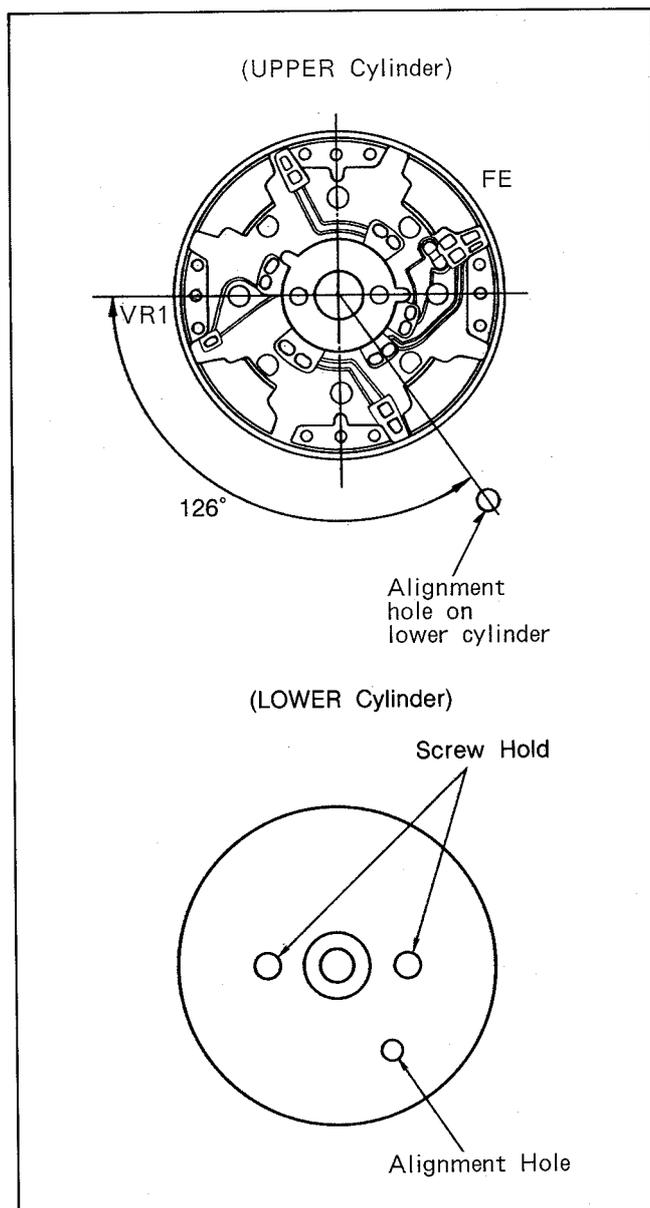

Fig. R2
4. The Upper Cylinder Unit can be reinstalled by reversing the removal procedure, however, when the Upper Cylinder is reinstalled, be extremely carefully so that VR1 of upper cylinder should be align 126° from lower cylinder alignment hole as Fig. R2.